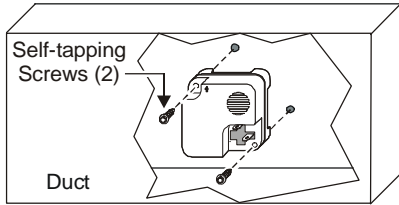

Figure 4: TE-637DP-1 Mounting
- **Orientation:** The sensor must be mounted on a flat surface in a vertical, upright position. (See Figure 4.)
3. Attach the sensor to the duct using a 1/4 in. nut driver and the two included No. 6 sheet metal screws. (See Figure 4.)